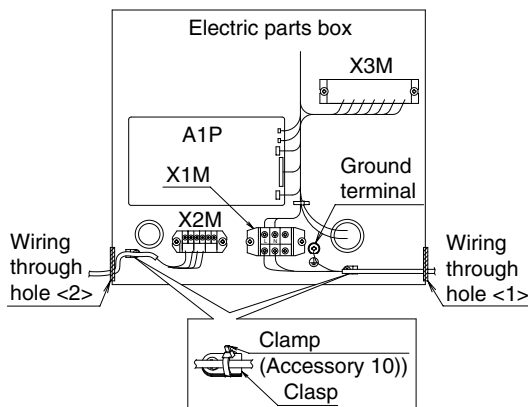

Fig. 17
- **Power supply wire, Ground wire (Refer to Fig. 17)**
- **Transmission wire, Remote controller wire (Refer to Fig. 17)**